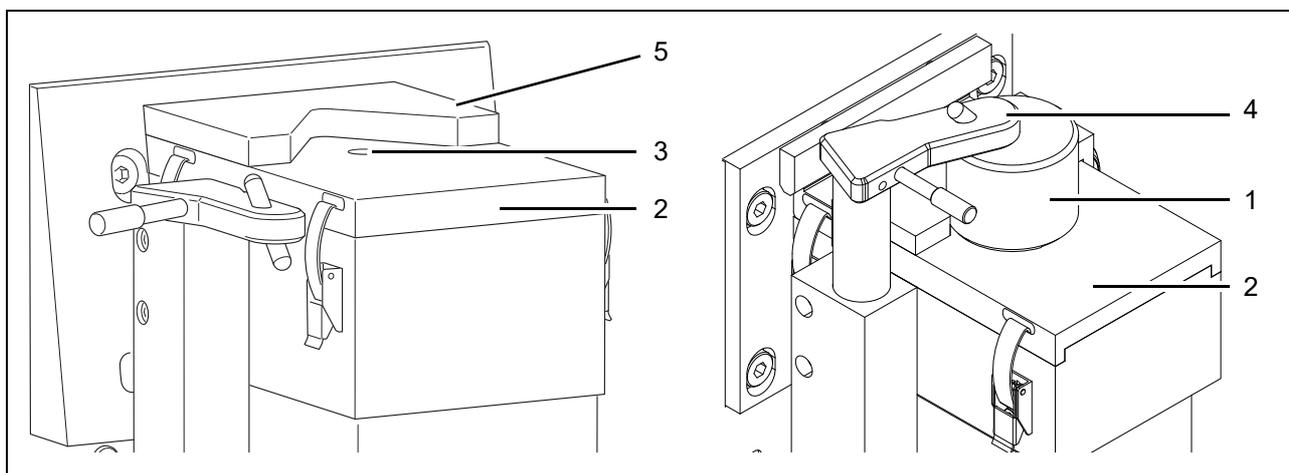

Fig. 7-1 Positioning the sample (example)
1. To spark a sample (1, fig. 7-1), place it on the spark stand (2) with the prepared side down which is as even as possible so that the spark stand opening (3) is completely covered, if possible.